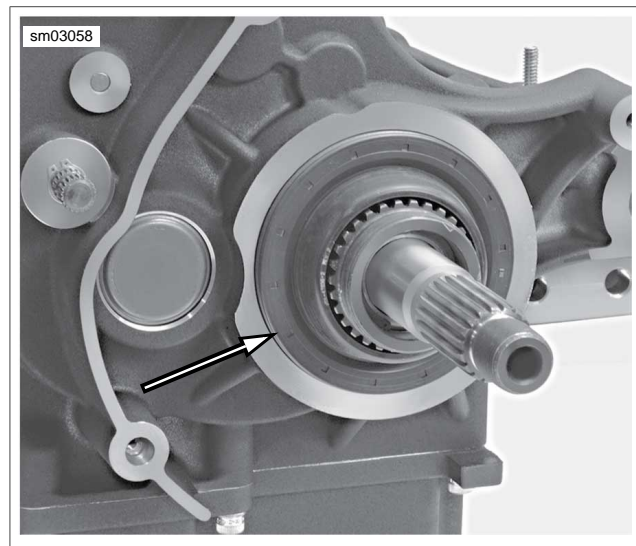

Figure 7-48. Place Main Drive Gear Seal Over Pilot
3. See Figure 7-48. Place seal over pilot and position seal squarely in end of crankcase bore.